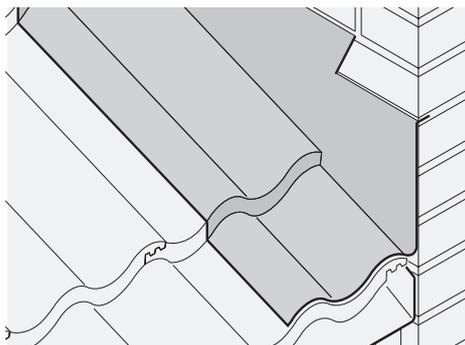

Fig. 25 – Stepped flashing with profiled interlocking tiles
- 7 Dress cover flashing as tightly as possible to tile profile (Fig. 25).